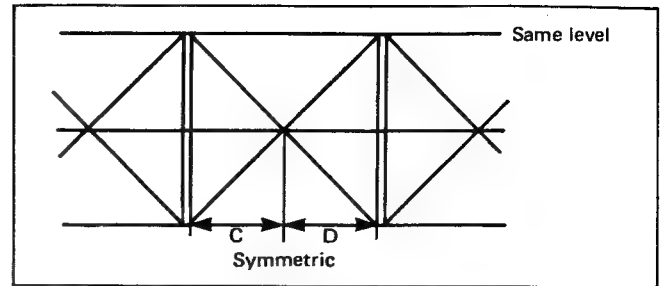

Fig. 23
- 7) Adjust R787 and R791 to achieve the correct waveform as shown in Fig. 23.